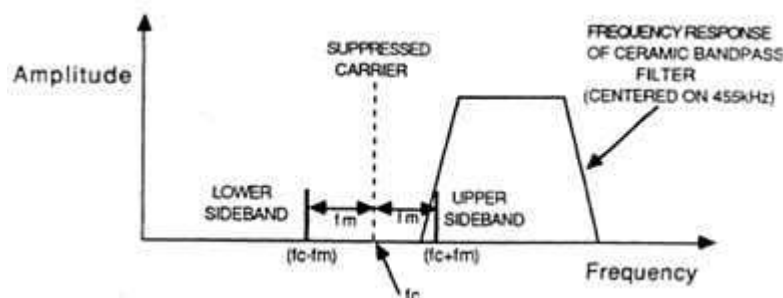
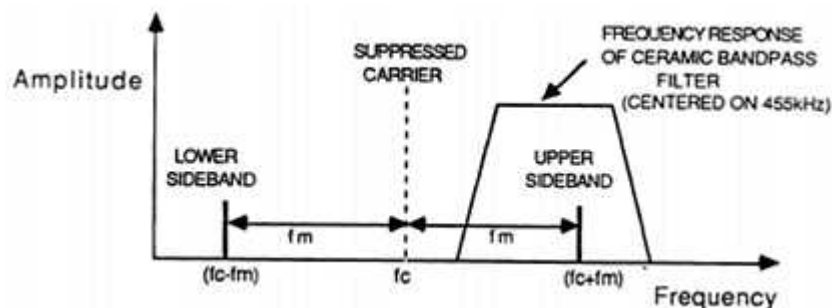

Fig.2.5
Fig.2.6
10. Note that there is some variation in the amplitude of the signal at the filter's output (TP20) as the modulating frequency changes. This variation is due to the frequency response of the ceramic band pass filter, and is best explained by considering the spectrum of the filter's input signal at the MIN and MAX positions of the frequency pot, as shown in Figure 2.5 and Figure 2.6 respectively.